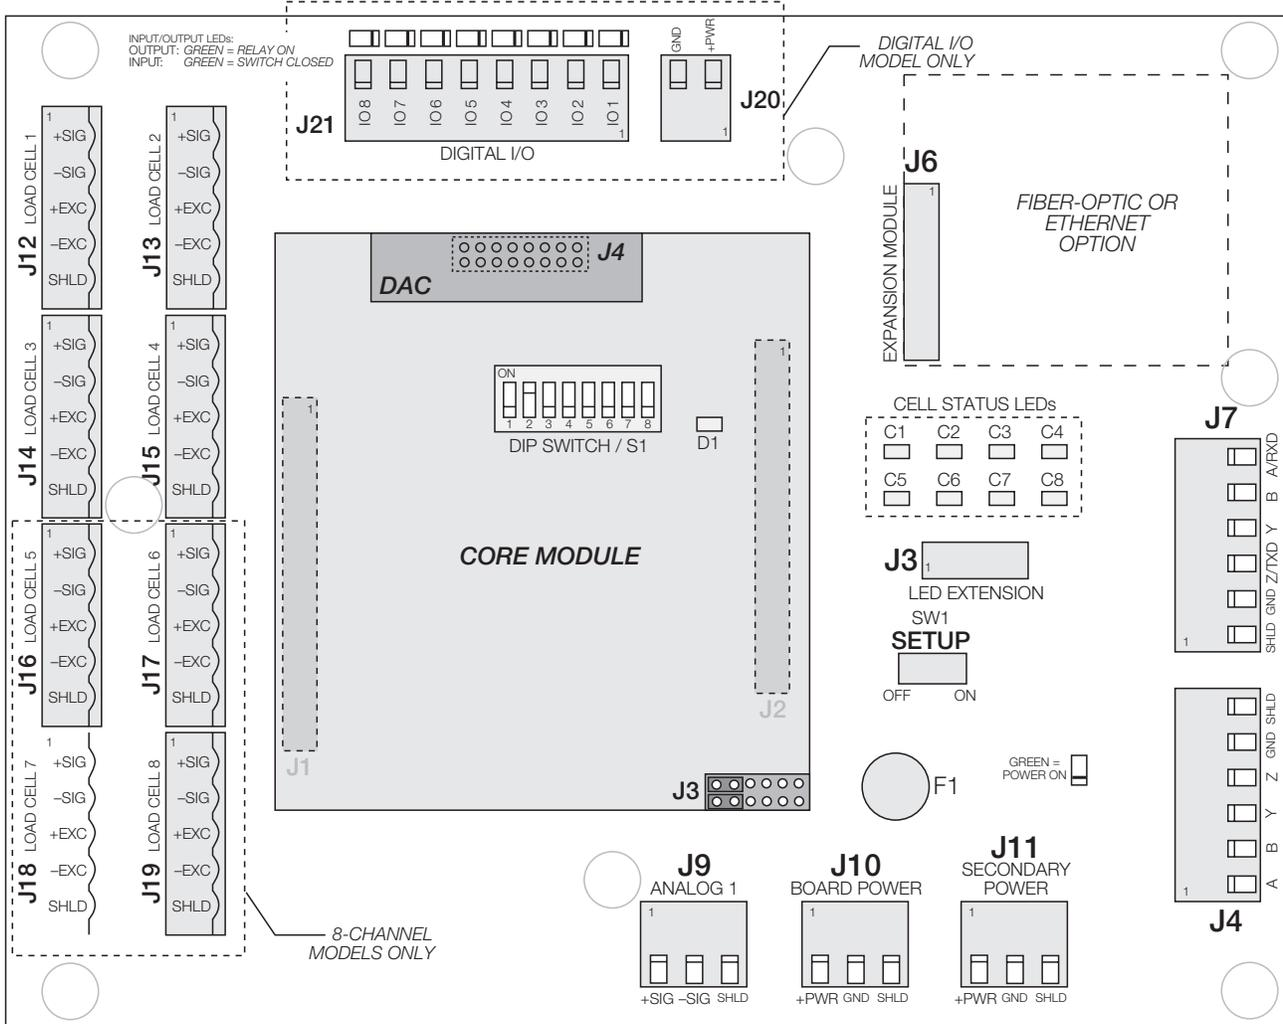

Figure 2-2. iQUBE Connector Board (8-channel with Digital I/O) with Core Module and DAC Card
To attach load cell cables to the connector board, route the cables through the cord grips on the load cell connector end of the iQUBE enclosure. Note the load cell numbering assigned to the connectors (see Figure 2-2).
Each output is a normally-open collector circuit, capable of sinking 25 mA when active. Digital outputs are wired to switch relays when the digital output is active (low, 0 VDC) with reference to a 5 VDC supply. Auxiliary power is available at connector J20 (see Figure 2-2 on page 4).
Analog output from the *iQUBE* is sent to connector J9 on the connector board (see Figure 2-2 on page 4). See Section 2.14.1 on page 12 for more information about installing the analog output option.
1. Power-off the *iQUBE*. Remotely powered units can be powered off by temporarily removing fuse F1 (see Figure 2-2 on page 4).